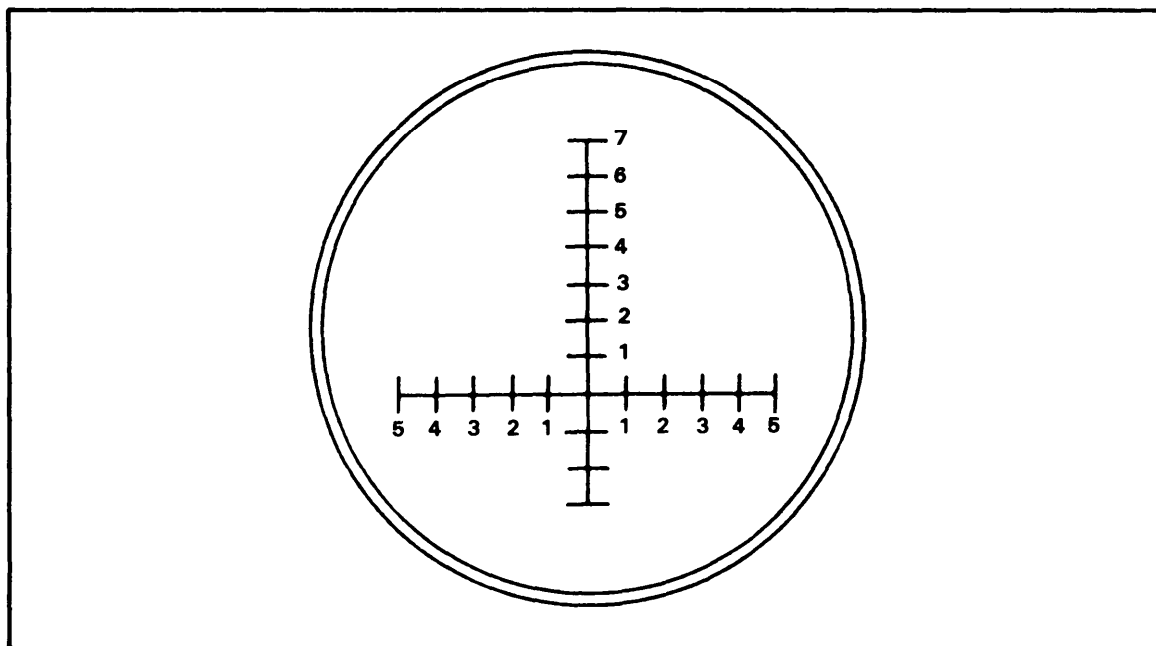
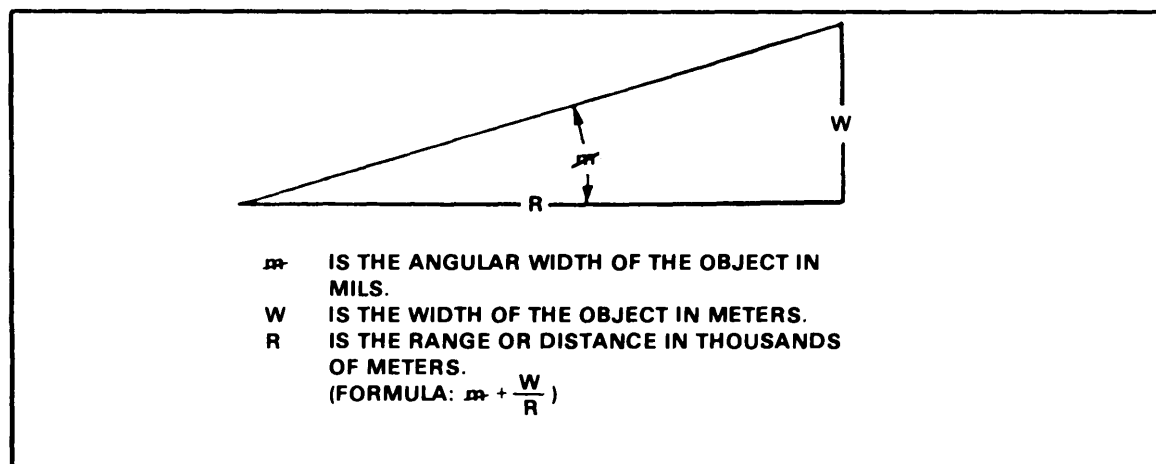

Figure 6-6. M19 binocular reticle.
Figure 6-7. Mil relation.
10-mil increments (Figure 6-6). When using binoculars to determine range, the soldier must understand the mil relation (Figure 6-7).
a. The mil(m) is the unit of angular measurement used in adjusting fire. A circle has 6,400 mils. At a distance of 1,000 meters, an object 1 meter wide measures 1 mil. Change mils to meters by multiplying the number of mils times the range (distance) in thousands of meters. Obtain the unknown width or range to an object (Figure 6-7) using a similar method.
b. The mil relation, as shown in Figure 6-7, is $\text{m} = \frac{W}{R}$; when m is the angular width of the object in mils, W is the width of the object in meters, and R is the range or distance in thousands of meters.
(1) To find Width when the known Range is 4,000 meters and the object is 15 m wide, multiply ($R \times \text{m}$) 4 (range in thousands) times 15 (mils). The answer is 60 (meters), or $4 \times 15 = 60$ meters.